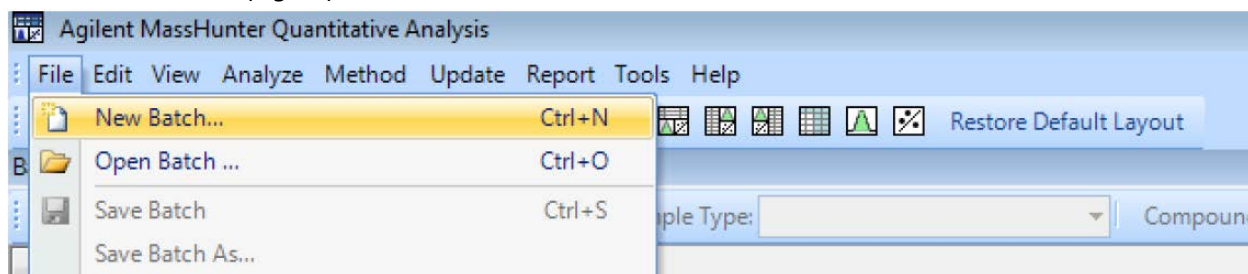

Fig.11
- b. Create a new batch (Fig.11)